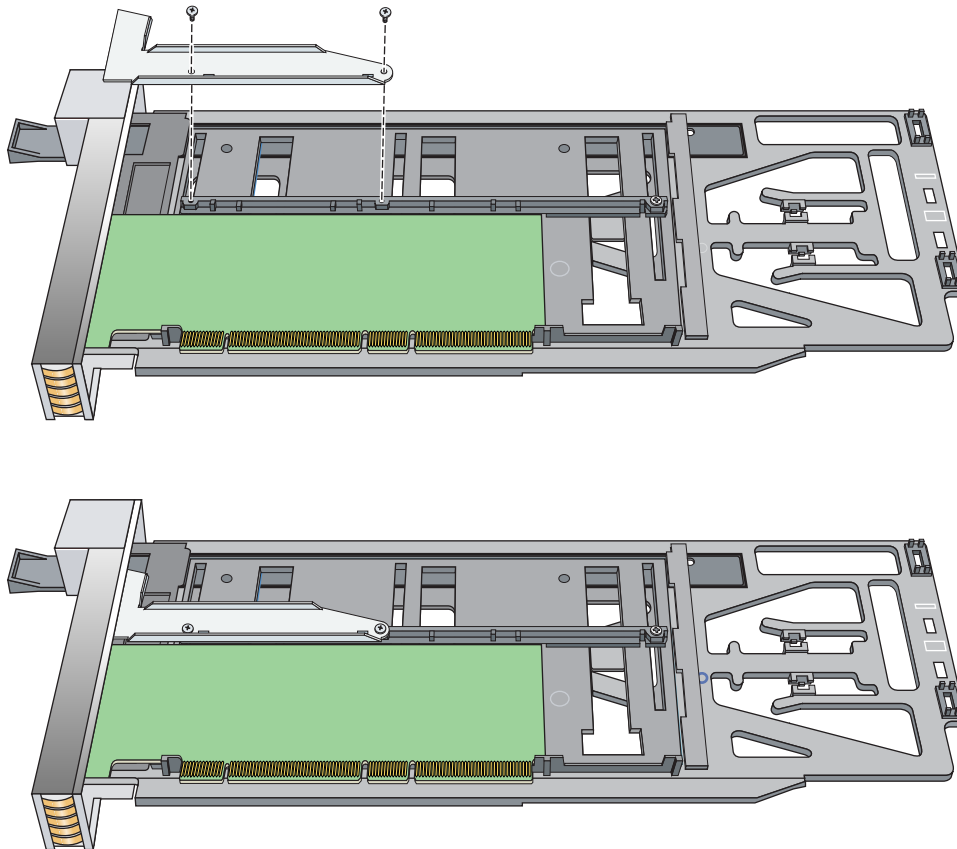

Figure 6-21 Installing the Bracket to Secure a Half-height PCI Card
- e. Place the PCI card bracket so that the screw holes of the bracket align with the empty screw holes of the carrier guide bar, as shown in Figure 6-21.